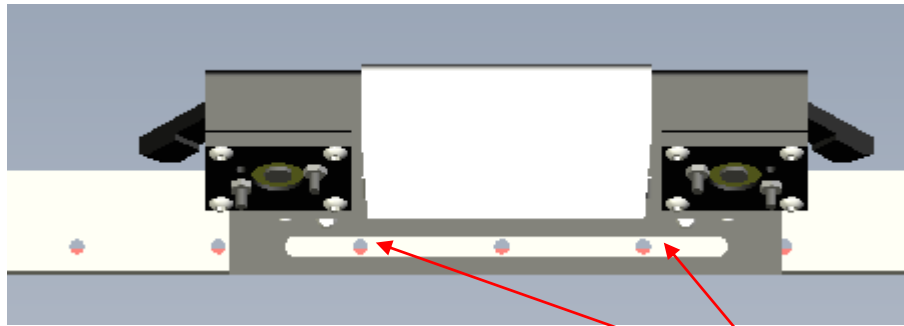

Figure 12
- Position the StopLink in the desired location on the track and secure its position with the supplied Phillips head screws. (Figure 12)